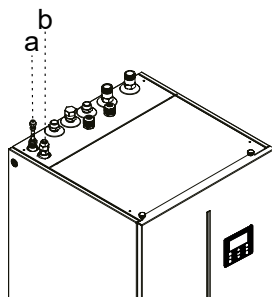

Fig. 8-6
- If the indoor unit is matched with outdoor unit (4/6 kW), the transfer 9.52-6.35(Refer to the table in Page 8) should be mounted on the refrigerant liquid connection of indoor unit(Refer to Fig.8-6); The transfer is not used in other types of outdoor unit(8/10/12/14/16 kW).